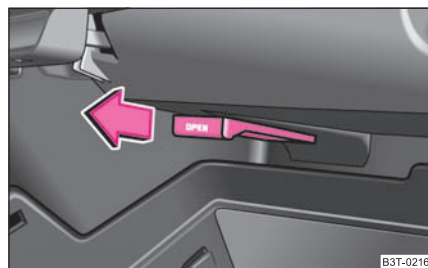

Fig. 92 Storage compartment: Using cooling system
- Switch on the cooling system by pulling the lever in direction of arrow ⇒ fig. 92.